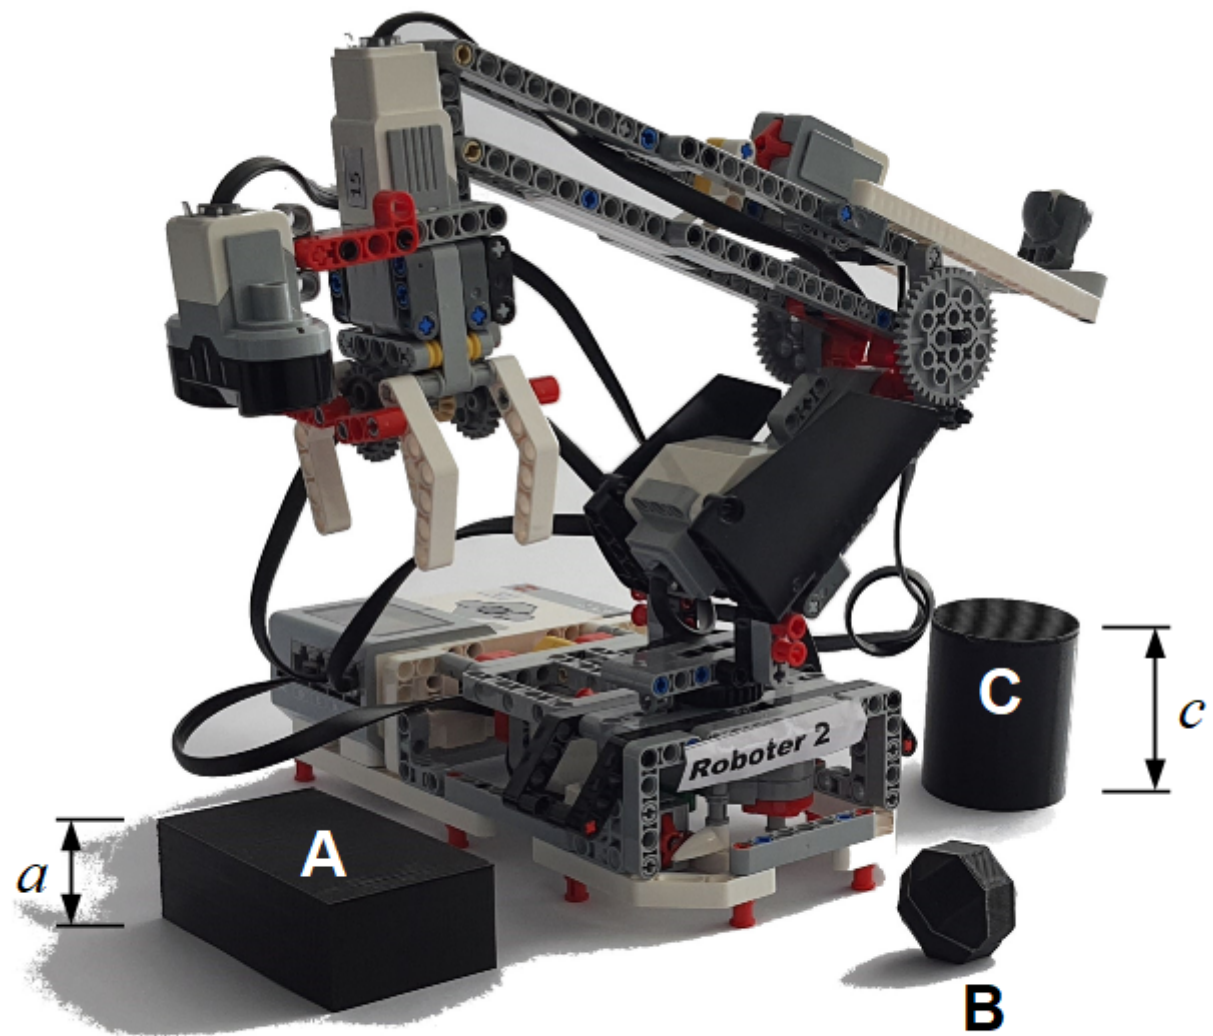

Figure 6 Stations A, B and C. The payload is the ball located at station B in this case.
- Station A at a height a as indicated in Figure 6
- Station C at a height c as indicated in Figure 6